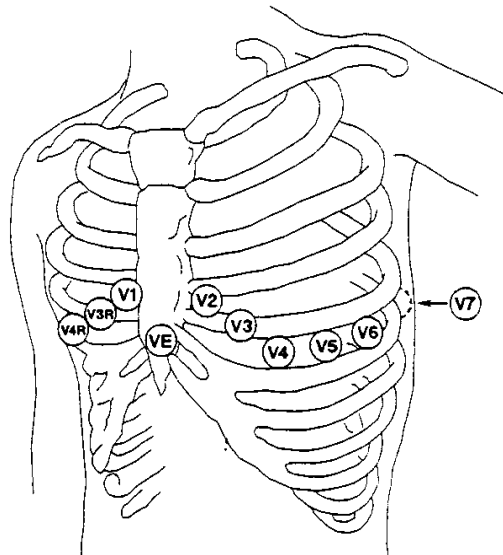

Figure12-3 C-Electrode Placement for 5-lead Set
- Red (R) electrode - Be placed near the right shoulder, directly below the clavicle.
- Yellow (L) electrode - Be placed near the left shoulder, directly below the clavicle.
- Black (N) electrode - Be placed on the right hypogastrium.
- Green (F) electrode - Be placed on the left hypogastrium.
- White (C) electrode - Be placed on the chest as illustrated in the Figure 12-3.
For 5-lead set, attach the C (V)-electrode to one of the indicated positions as below (Figure 12-3):